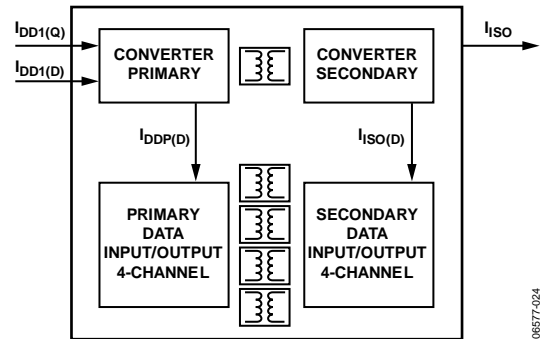

Figure 29. Power Consumption Within the ADuM5401/ADuM5402/ADuM5403/ADuM5404
The VDD1 power supply input provides power to the iCoupler data channels, as well as to the power converter. For this reason, the quiescent currents drawn by the data converter and the primary and secondary input/output channels cannot be determined separately. All of these quiescent power demands have been combined into the IDD1(Q) current, as shown in Figure 29. The total IDD1 supply current is the sum of the quiescent operating current; the dynamic current, IDD1(D), demanded by the I/O channels; and any external IISO load.